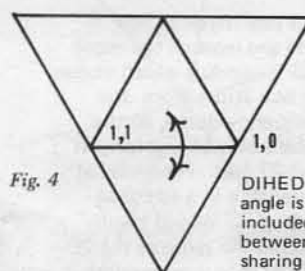

Fig. 4
**DIHEDRAL 1,1 1,0** refers to the angle between the two faces that share edge 1,1 1,0. It is the *total included angle* and again is given first in degrees and then in radians. See Fig. 4.